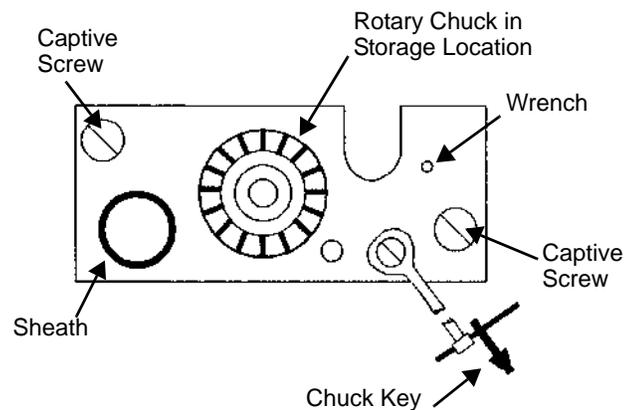

Figure 154 Chuck Holder Plate Configuration
The chuck holder plate is shipped in the configuration shown in Figure 154 on page 175.
5. as shown in Figure 154 Store the rotary chuck on the chuck holder plate as shown in Figure 154 on page 175.